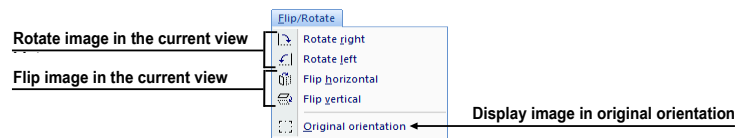

Figure 43 – Flip/ Rotate menu
- **Flip/Rotate** – flipping and rotating the image in the current view (see Figure 43).